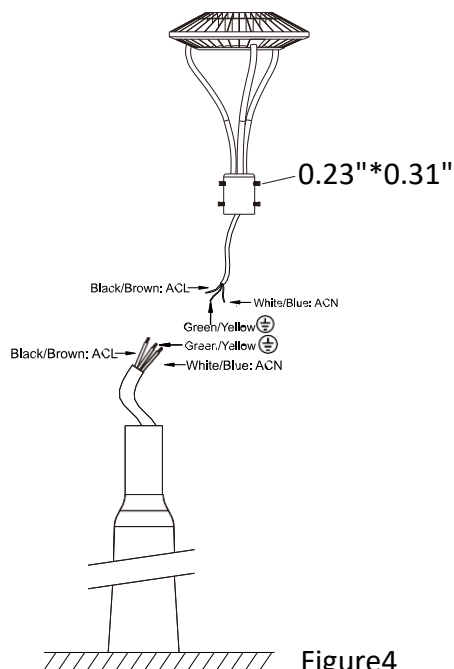

Figure 4
4. Loosen the handle screw and connect the corresponding LN G wire to make it waterproof. (Figure 4)